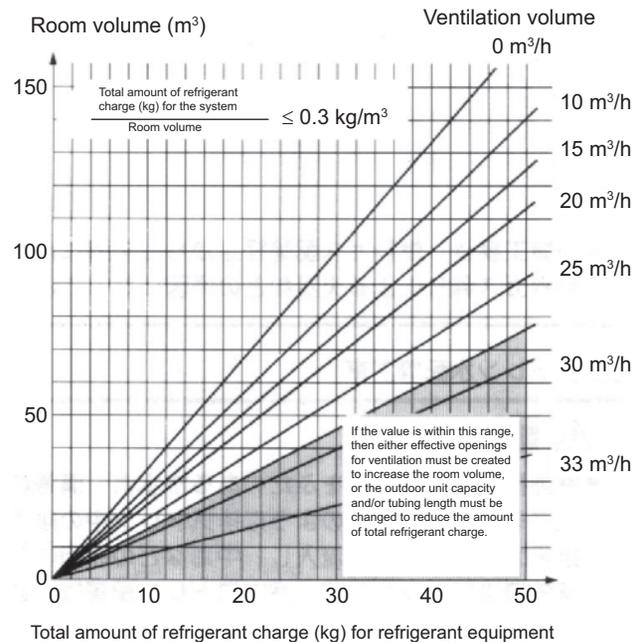

Fig. 6 Selecting a System According to Ventilation Volume
The maximum values for the refrigerant charge that can be selected for each room volume are indicated by the area outside the range of diagonal lines in Fig. 6. If the value is within the range of the diagonal lines, then either effective openings for ventilation must be created to increase the room volume, or the outdoor unit capacity and/or tubing length must be changed to reduce the amount of total refrigerant charge. However, this is not necessarily the case when 2 or more independent measures are taken to ensure the safety of persons inside the room in the event of refrigerant leakage.
- (c) The ventilation volume of the mechanical ventilation devices must be at or above the volume shown in Fig. 6, according to the amount of refrigerant gas and room volume.
- If the following is true in Fig. 6, then ventilation devices with the indicated ventilation volume are required: $2/3 > \text{Total amount of refrigerant charge for the system} / \text{Room volume} > 0.3$
- The range indicated by in Fig. 6 is the range in which: $\text{Total amount of refrigerant charge for the system} / \text{Room volume} \geq 2/3$. If the value is within the range indicated by , either the room must be enlarged (for example, by removing a door connecting to the next room), or the outdoor unit must be reduced in size.